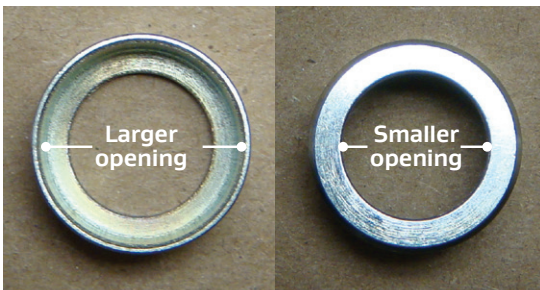

Figure 21: Compression sleeve openings
10. Slide the compression sleeve over the wires with the larger opening facing the cable and the smaller opening facing the end of the wires (Figure 21).